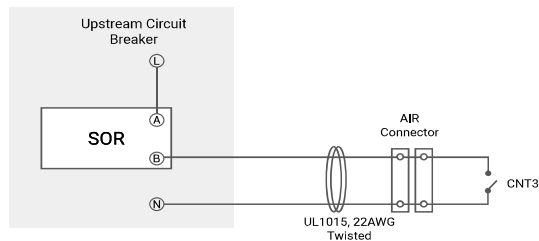

Figure 22. Control Circuit
1) Connect UL1015 22AWG 105°C 600V wires from the sensor board to the upstream circuit breaker. See figure 22.